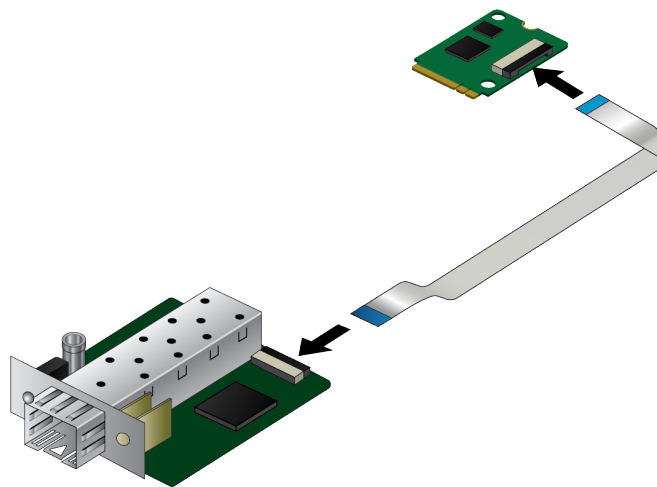

Figure 14. Verifying the Ribbon Cable is Securely Attached
15. Attach the ribbon cable securely to the SFP board and the controller board inside the system. See Figure 14.